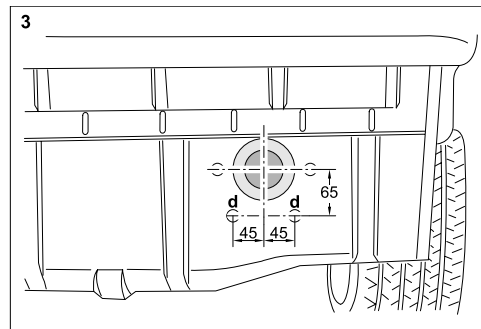

Fig. 3 : Holes in right rear panel and sealing ring
- 6.) Mark necessary holes in the rear panel at " d " in the area beneath the right - hand impact damper opening and drill with 14 mm  $\varnothing$  drill ( see Fig. 3 ).
- 7.) Clean rear panel in the area about the right - hand impact damper opening and adhere foam sealing ring about opening; see Fig. 3.
903 095 650 001	VPE. Retaining parts, including Fig. 3